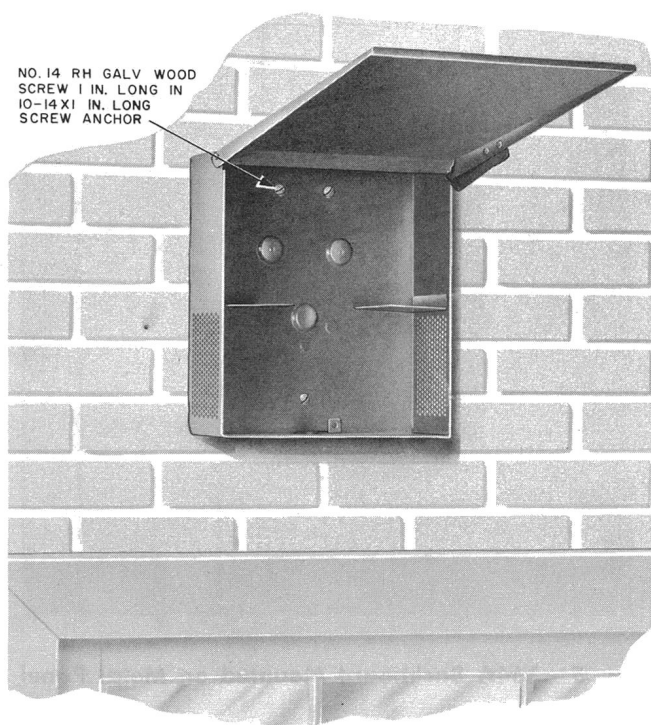

Fig. 6 — 169A Backboard Mounted on Brick Building
2.15 The 169A backboard is used where protection from weather and mechanical injury is desired. This backboard is provided with a hinged cover and machine screws for mounting subscriber set. When mounted outdoors, this backboard should be secured with rustproof fasteners. Where practicable, use three fasteners to attach the 169A backboard. Fasteners should be brought up snug without forcing to avoid distorting backboard and throwing tapped mounting holes out of alignment (see Fig 6).